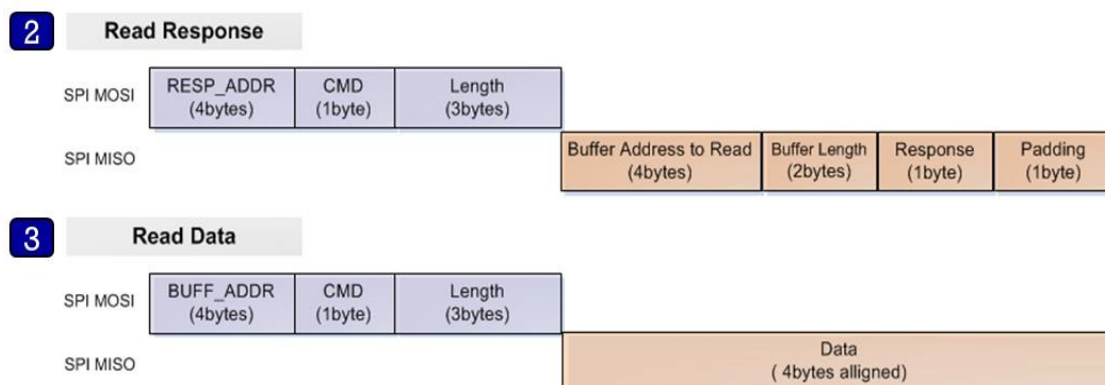

Figure 5. Read operation structure
- The Host reads the response message from Response Command address (0x50080258, blue rectangle in Figure 5) and parses it using struct `_st_host_response` (see Section 1.2.6).
- The Host reads data from address (BUFF_ADDR) which is received from Slave in the response message (green rectangle in Figure 5).